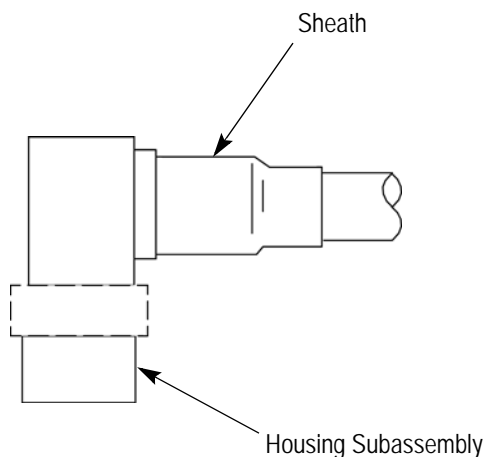

Figure 5
### 3.4. Shrinking Sheath to Cable (Figure 5)
1. Position the sheath over outer sleeve as shown in Figure 5.